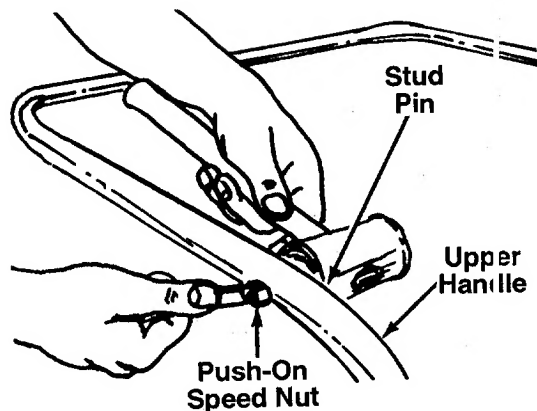

FIGURE 7.
1. Place the stud pins in holes in upper handle (head of pins go to the inside of handle). Secure pins with push-on speed nuts by holding speed nut with box wrench and tapping pin with hammer. See figure 7.